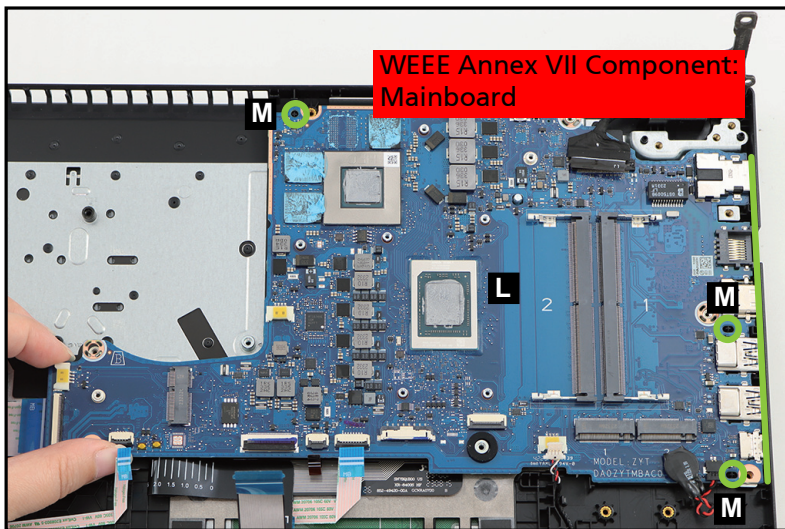

Figure 1-38. Mainboard Removal
14. Release the mainboard (L) from the I/O ports slots and guide pins (M) on the top assembly (Figure 1-38). Then remove the mainboard.